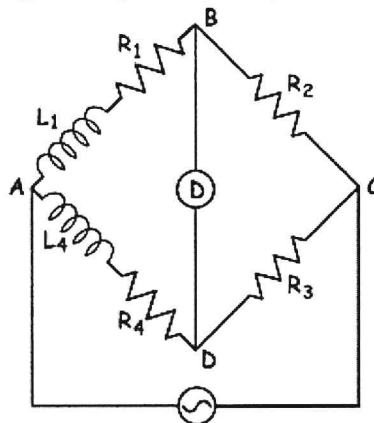

Fig. 1
- (c) The bridge of Fig. 1 has the following components: